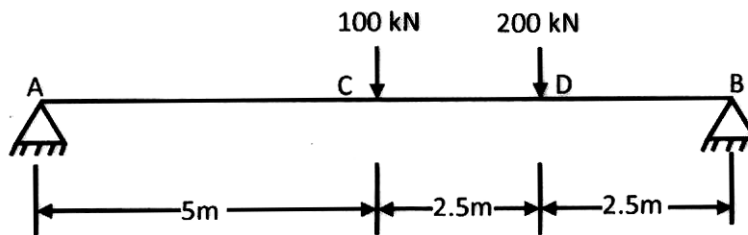

Fig. 6
12. (a) A simple beam AB supports two concentrated loads 100 kN and 200 kN as shown in Fig. 6. Calculate the maximum deflection of beam, if $E = 200 \text{ GPa}$, $I = 1.2 \times 10^9 \text{ mm}^4$. [8]